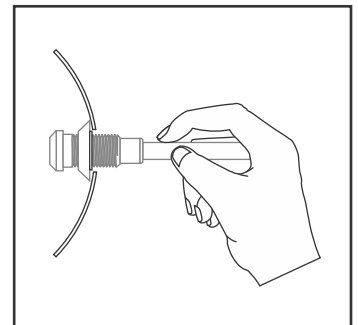

Fig. 45: Seat the Seal
6. Seat The Seal: With the seal inside the duct and positioned on the test port shoulder, seat the seal lip in the hole by firmly pulling the handle so that the test port threads slide through the seal and protrude from the duct hole. Ensure that the seal lip is still seated in the hole. (Fig. 45)